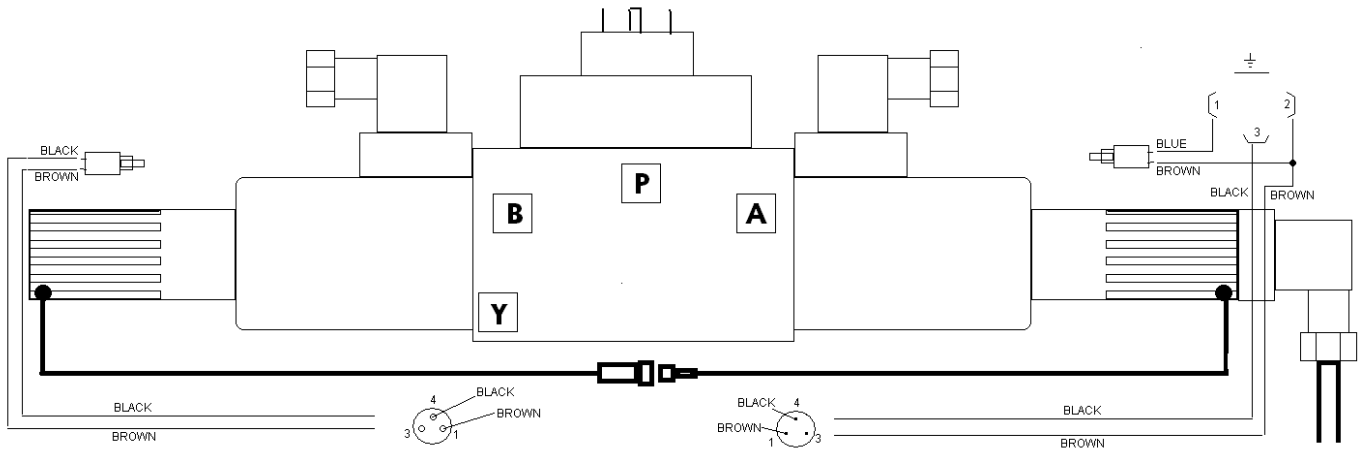

Figure 5: CETOP 5 Switching adaptor fitting diagram
- 5) Ensure the plunger pin and spring are seated correctly inside the switching adaptor. One adaptor will have a connector on its end (A port side – see Figure 5).